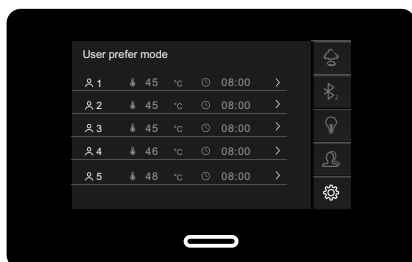

Figure 5
- Press  to enter to the "User prefer mode". (Figure 5)
- Press  on the right, a small window jumps out to set the room temperature and steam time. (Figure 5)